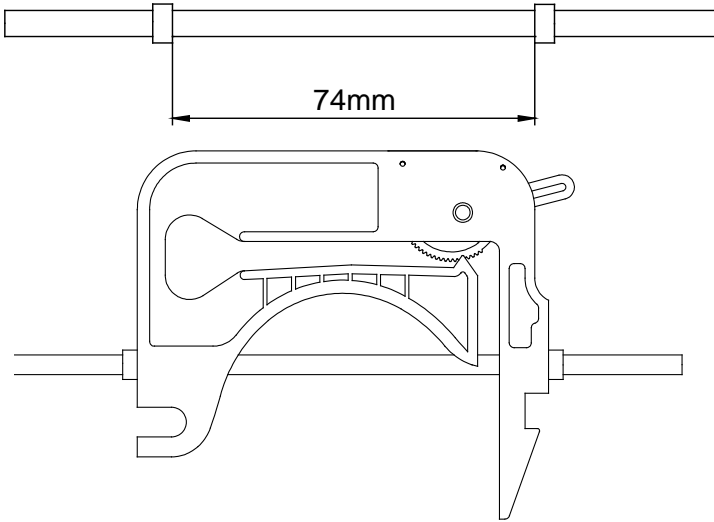

Figure 4. Tubing with Stops
- 4) Load the tubing into the slot of the cartridge on each side as shown on the Figure 4.